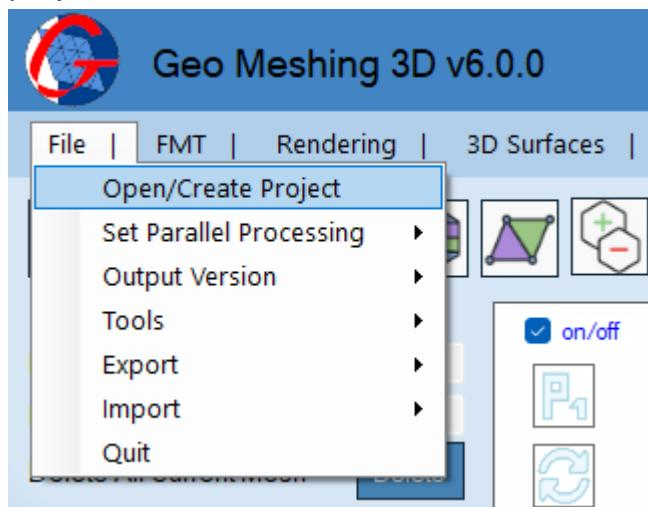
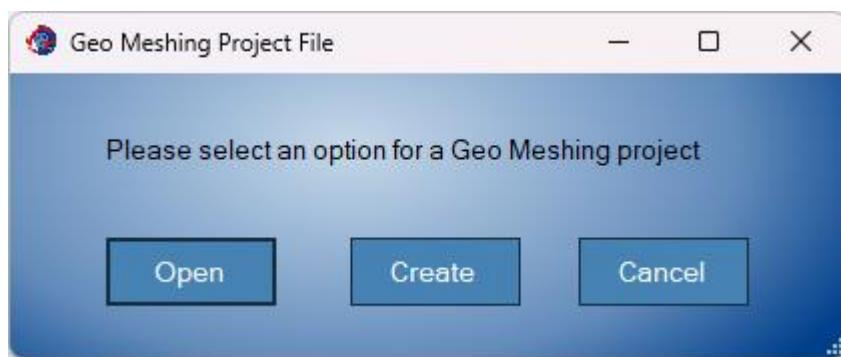

Figure 7: File Menu – Open/Create Project.
Figure 8: Open/Create Project dialog window.
- **File Menu, Open/Create Project:** This option (shown in Figure 7) shows the dialog window of Figure 8, for opening a project file or setting up a new project file.